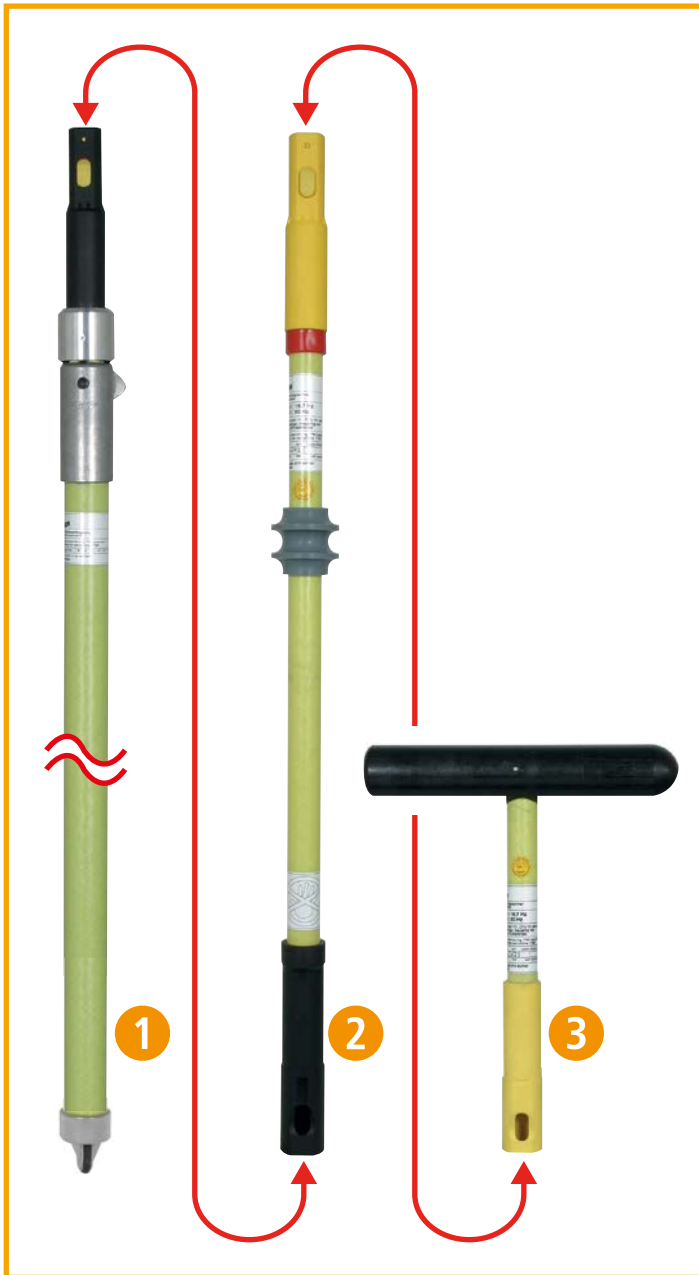

Figure 1 Components
- ➔ The insulating stick with operating head may also be used in wet weather conditions (rain, fog, etc.). The insulating stick (item 2, page 6) and the operating head (item 3, page 6) have been tested for discharge current in wet conditions and for protection against bridging in wet conditions as per DIN VDE 0682-411, para. 7.1.2 and para. 6.3.1 respectively. Live parts of an installation must not be contacted uninterrupted for longer than 1 minute in wet weather.
- ➔ The insulating stick, extension handle and operating head must be checked for mechanical damage (for tight-fitting shields, tight-fitting of the red ring as well as the black marking ring; for cracks and deep scratch marks in the insulating clearance area, and the extension part, etc.) before assembly (see Figure 1, page 6). Defective components must be withdrawn from further use.